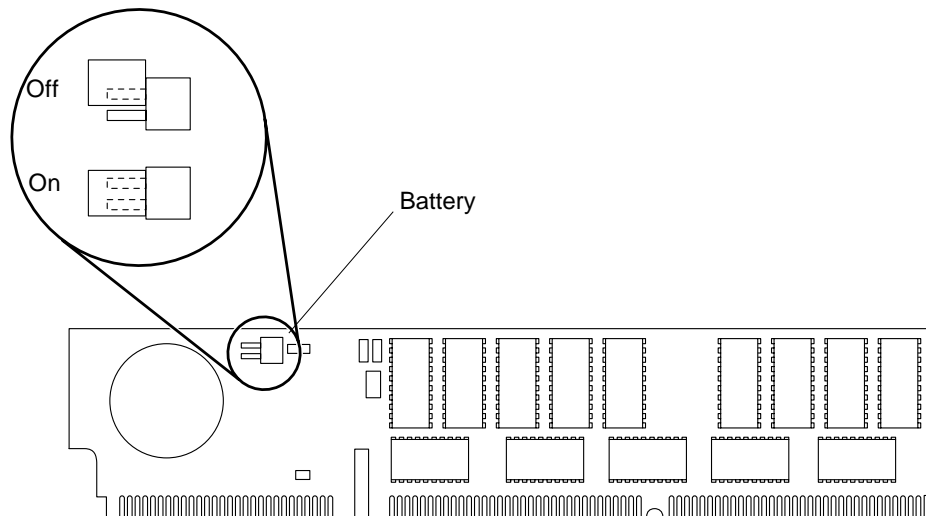

FIGURE 11-29 NVSIMM, Battery Side
6. If installing an NVSIMM, proceed as follows (FIGURE 11-29):